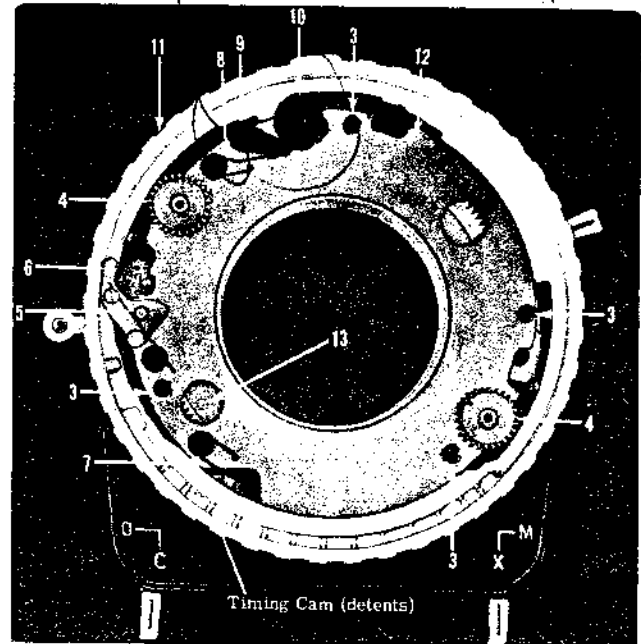

Figure 16.
f. Place washer (13, Figure 16) and bearing plate (12) over lens opening.
g. Apply a thin coat of lubricant (39484P8) to inside bearing surfaces and detents on timing cam (11, Figure 16). Orient timing cam on front housing by locating the red dot on cam opposite the "0" position on the timing scale. Using an offset counterclockwise movement, compress the second timing dog post within the inside diameter of the cam. Continuing with the offset counterclockwise movement, compress the third timing dog post, and finally, the first timing dog post. With all posts contained within the inside diameter of the cam, the cam will snap into position.
h. Apply a thin coat of lubricant (39484P8) to periphery of cam stop (10), and assemble cam stop and stop pawl (9) as shown. Assemble pawl stop spring (8), synchronizer lever spring (7), bulb lever assembly (6) and bulb lever spring (5).
j. Apply a thin coat of lubricant (39484P8) to pinion, journal and gear teeth on two winding pinions (4). Insert winding pinions through their respective holes in bearing plate, facing timing marks on pinion toward inside and visually aligned with center of shutter.
k. Place four cover spacers (3) over four holes in bearing plate as shown. Locate bearing